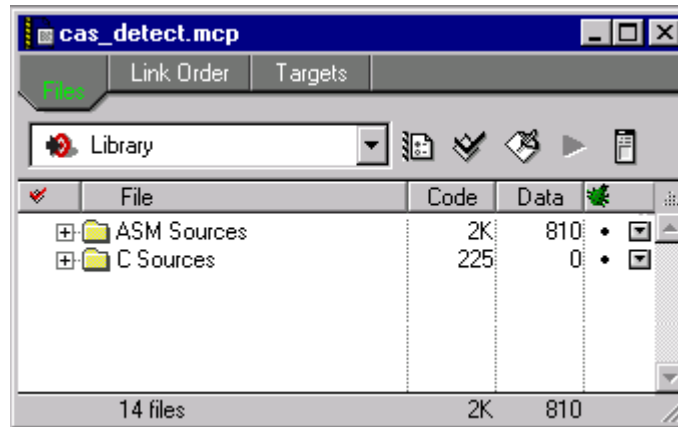

Figure 4-2. cas_detect.mcp Project
Step 1. Open *cas_detect.mcp* project, as shown in **Figure 4-2**: